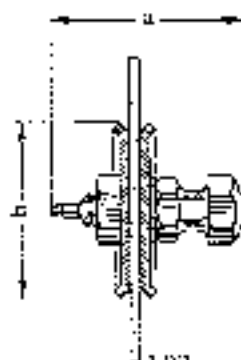

Fig. 07-0/10 c
- a) The length of the pump diaphragm bolt is measured from the dome against which the pump arm rests to the tip of the pin actuating the bail valve in the accelerating pump (Fig. 07-0/10 a).